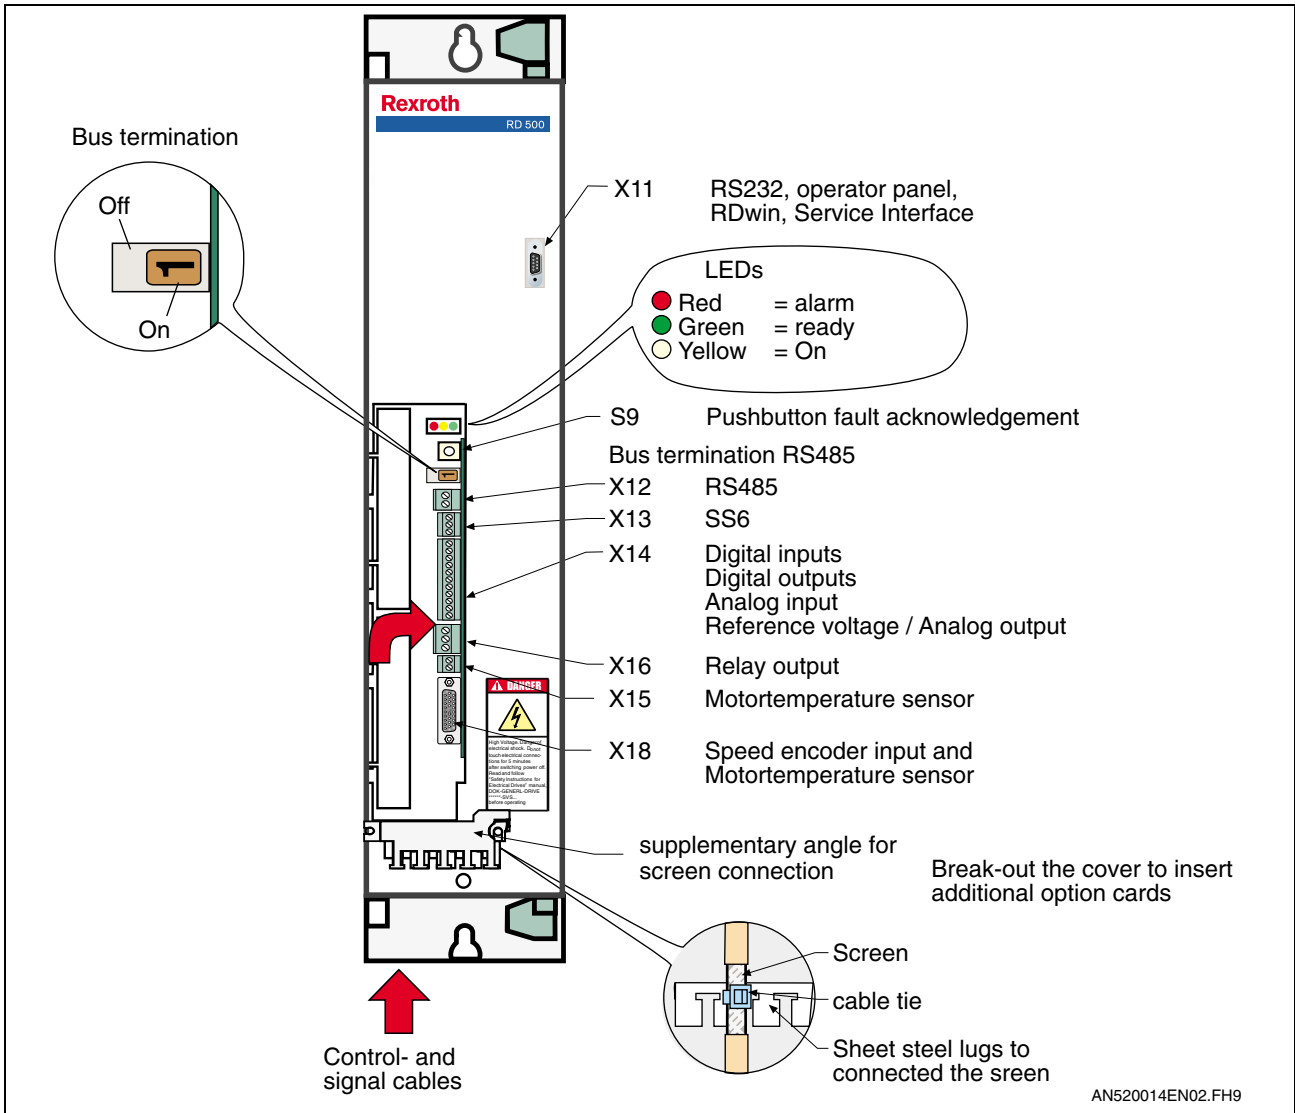

Fig.:4-9 Control terminals on the SR17002 logic and control board
- The motor temperature sensor conductors can either be routed in the encoder cable or using a separate cable to connector X15 of the logic control card (refer to Fig.:4-9; Fig.:4-10, SR17002 terminal diagram).